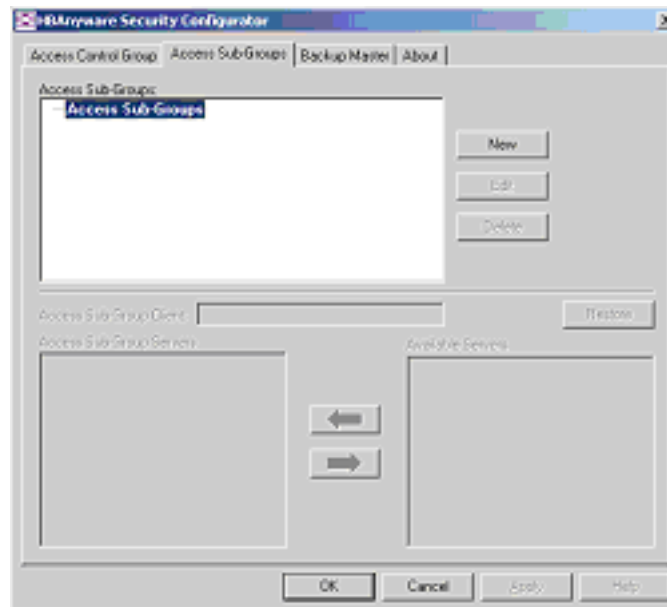

Figure 79: Access Sub-Groups tab with No Sub-Groups Created
1. Click the **Access Sub-Group** tab (see Figure 79 on page 156).